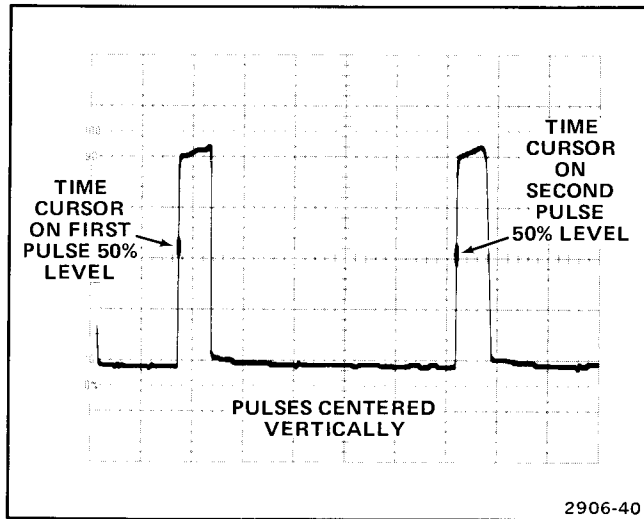

Figure 23. Time difference between repetitive pulses.
4. Select the TIME cursors and use the CURSOR control knob to position the active cursor on the 50% level of the first pulse leading edge (see Figure 23).